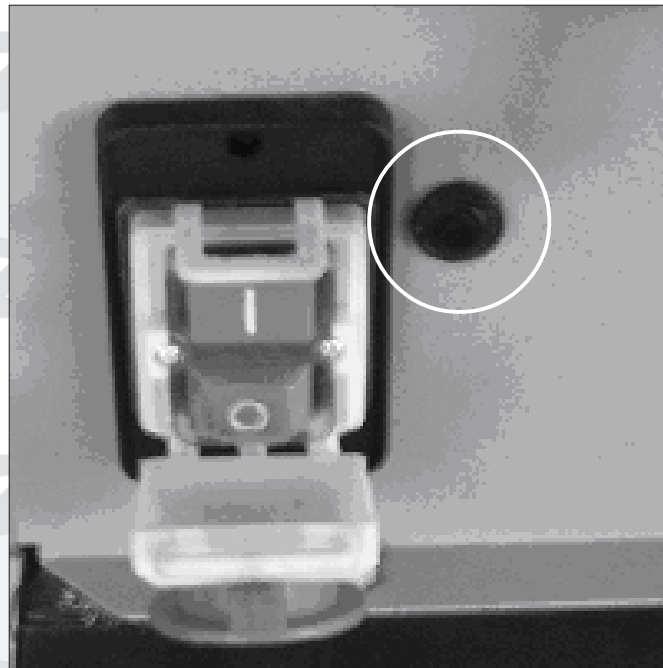

Figure 13
The saw is equipped with an overload cut-out that switches it off if it is overloaded. Switch off the saw and wait a minute or two. Press the reset button (51) and switch the saw back on as shown in figure 13.